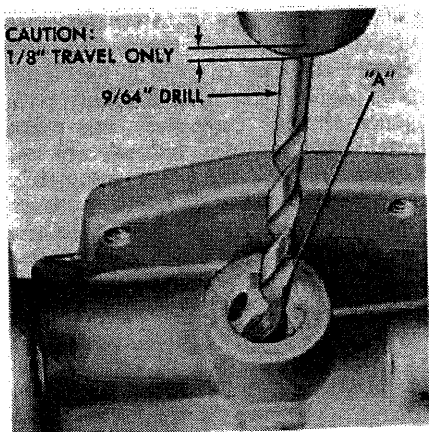

Fig. E2-4—View showing method of removing early type check valve (25—Fig. E2-2).
Disassembly of carburetor will depend upon extent of service required. Parts (4, 13, 16, 20, 20L, 21, 25, 25D, 26, 26F and 26G) may be damaged by most commercial carburetor cleaning solvents and must be removed. The gravity feed inlet fitting (26F) and early type check valves (25 and 26) are pressed into carburetor body. The fitting (26 or 26F) should be pulled out of bore, then carefully drill outlet check valve (25) with a 9/64 inch (3.57 mm) drill to a depth of 1/8 inch (3.17 mm) as shown in Fig. E2-4.